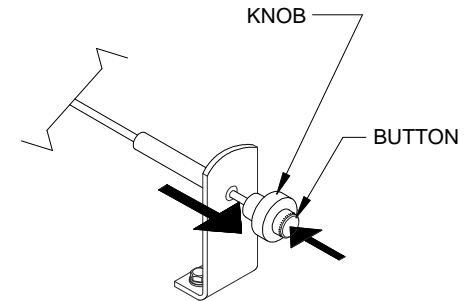

FIGURE 2-11: DISENGAGE PLATFORM FROM ENCLOSURE
- 2) Refer to **Figure 2-11**. Release the platform from the enclosure by pushing the button on the release knob and then pulling the knob outward about two inches. Release the button while holding the knob out.